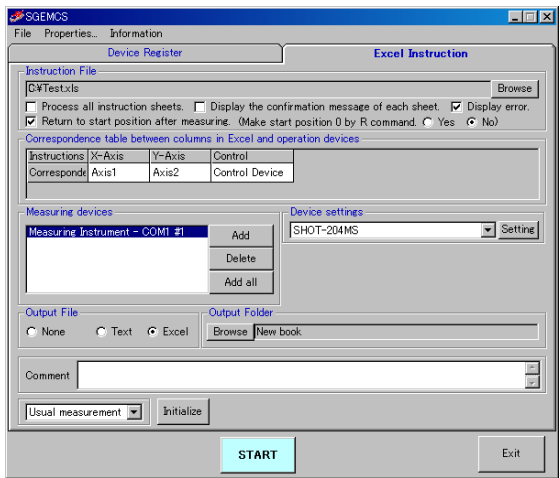

Fig 4-43 Excel Instruction dialog
- * See figure 4-43. Column D is the blank column, and column C, at the left, is the measurement column. SGEMCS recognizes the entries in further left columns (A and B) as coordinate values or control commands.
- * In figure 4-43, cells on the first row are assigned to X-axis, Y-axis and measurement. Enter any of characters, symbols or numeric values, but be sure to begin with the first row.
- R : Designate the position as the origin in logical coordinate system, and assign the coordinate (0).